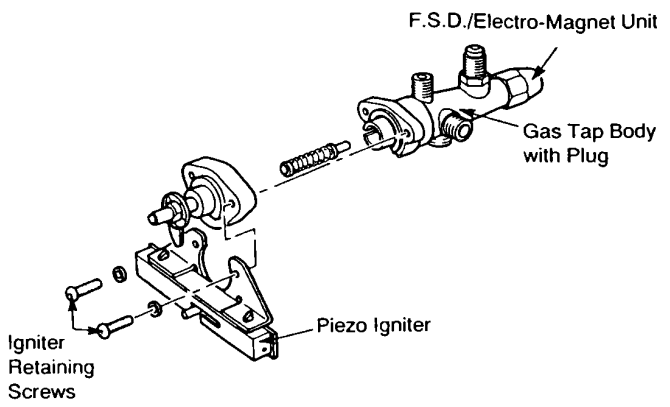

Fig. 12 Gas Control Tap/Flame Failure Device
1. GAS CONTROL TAP/FFD (Fig.12)
8. PIEZO UNIT (Fig.12)